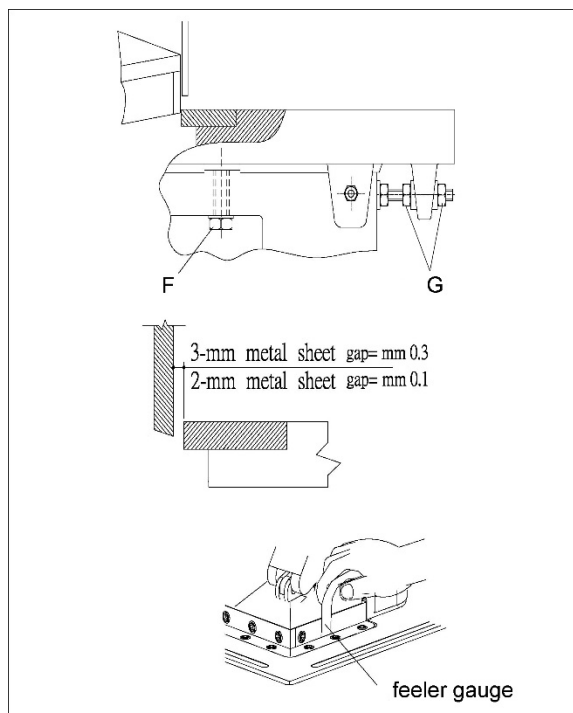
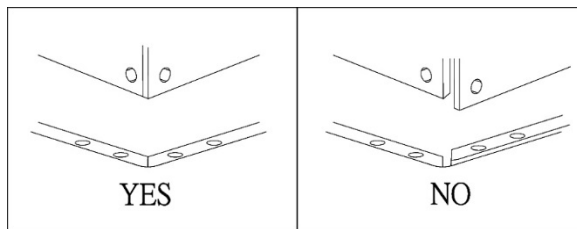

Figure 8-2: gap adjustment
Figure 8-3
6. Use feeler gauge to measure gap between upper and lower blades (Figure 8-2).
7. Make adjustments using hex nuts beneath table. Turn (F) to raise or lower blade, turn (G) to move in and out. Feeler gauge should be snug but can still be smoothly removed.
8. Make sure blades are flush against each other at the corners. See Figure 8-3.